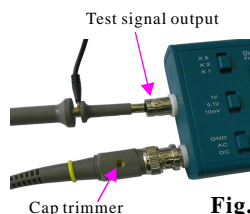
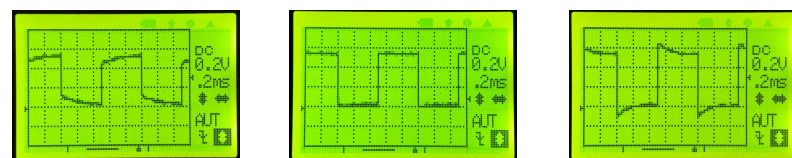

Fig. 5
Fig. 6
- 3) Set timebase to 0.2ms and sensitivity to 0.2V (see Fig. 6).
- 4) Place probe tip onto the central conductor of test signal connector (Fig. 5). Adjust trigger level if display is not stable.
- 5) Adjust the cap trimmer at probe connector with small screw driver (see Fig. 5) so as sharp rectangle waveform is displayed (middle screen of Fig. 6).